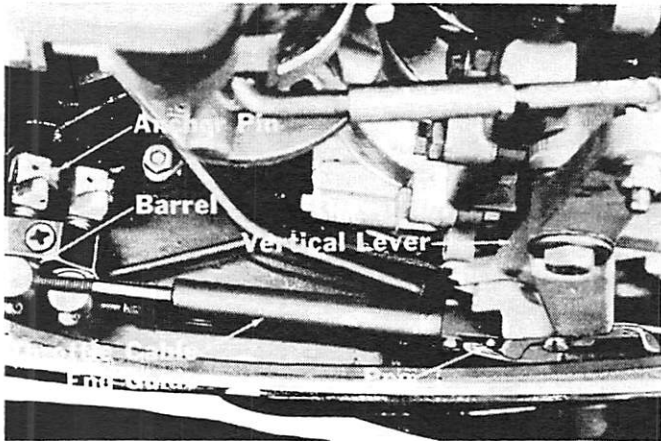

Figure 7. Cable End Guide Over Peg on Vertical Lever
8. Place remote control throttle cable through opening in front left hand side of bottom cowl and position cable end guide over peg on vertical lever. (Figure 7)